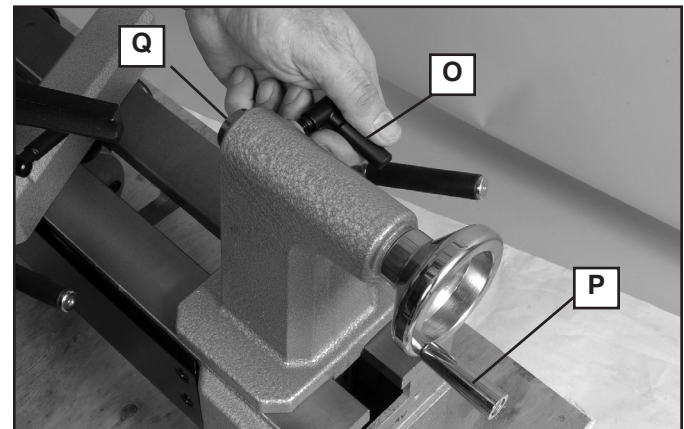

Fig. 12
The quill locking screw (O) Fig. 12 locks the quill (Q) in place when used with the supplied live center or other lathe accessories.